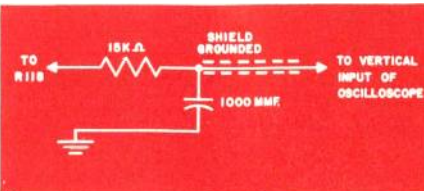

FIG. 6. OSCILLOSCOPE PROBE
3. Connect the oscilloscope across R118 as shown in Figure 6. Use shielded cable to oscilloscope.